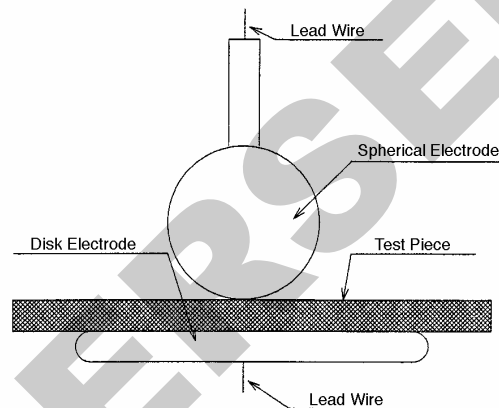

Figure 1
2.2 *Electrodes* — A brass spherical electrode with a diameter of 12.5 mm and a brass electrode with a diameter of 25 mm, which peripheral edges being rounded off to a radius of 2.5 mm (see Figure 1).